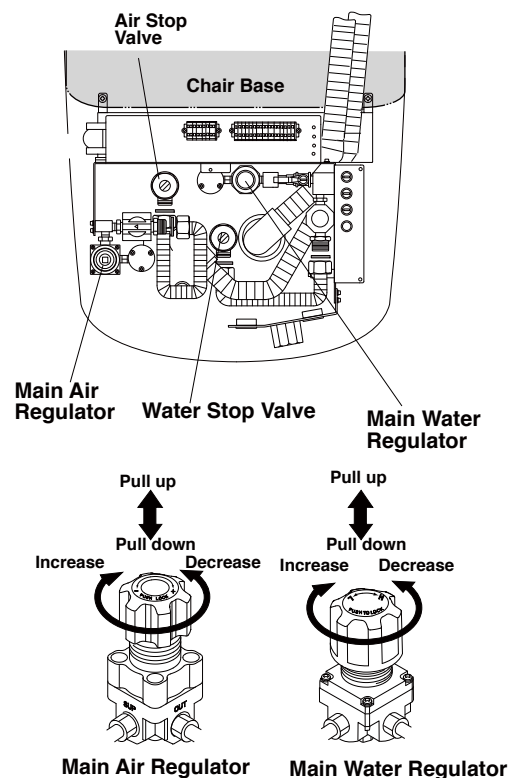

Fig.7-1 Main Air and Main Water Pressure Adjustment
(1) Water and Air Stop Valves (Fig.7-1)
(2) Main Air Pressure (Fig.7-1)
(3) Main Water Pressure (Fig.7-1)